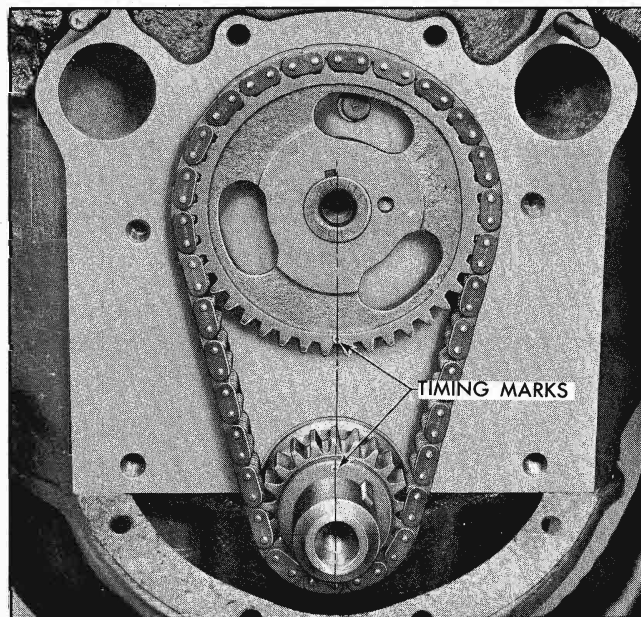

Fig. 6-84 Aligning Valve Timing Marks
9. Make sure keys are in place in crankshaft and camshaft. Install timing chain and sprockets making sure marks in sprockets are aligned exactly on a straight line passing through the shaft centers (Fig. 6-84).